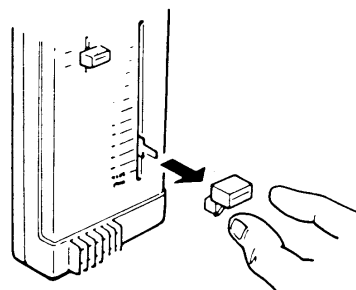

Fig. 7
- ① Pull off the thermostat knob. Fig. 7